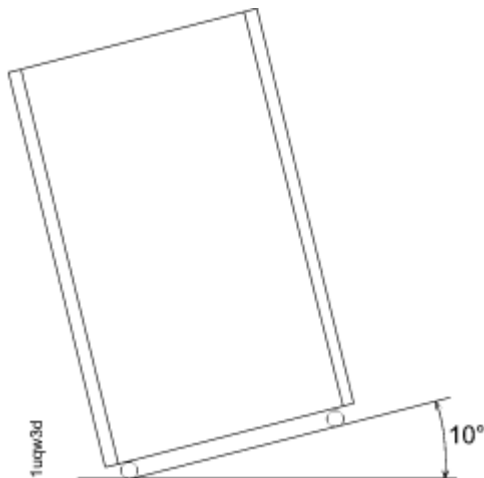

Figure 6. Maximum tilt for a packed frame is 10°
3. To compensate for the weight of the storage system shipment, ensure that the loading ramp at your site does not exceed an angle of 10°. (See Figure 6 on page 101.)